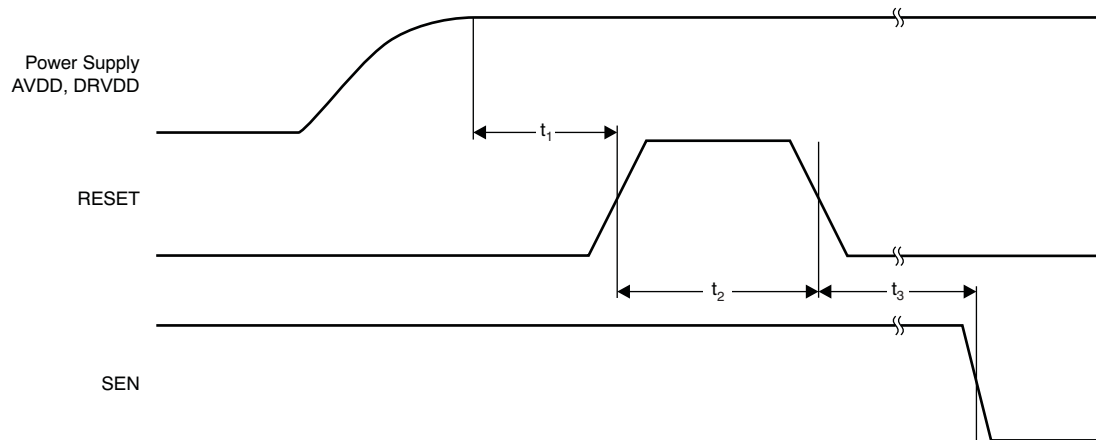

**Figure 9. Serial Interface Timing**
1. Through a hardware reset by applying a high pulse on the RESET pin (of width greater than 10 ns), as shown in Figure 9 and Table 9; or